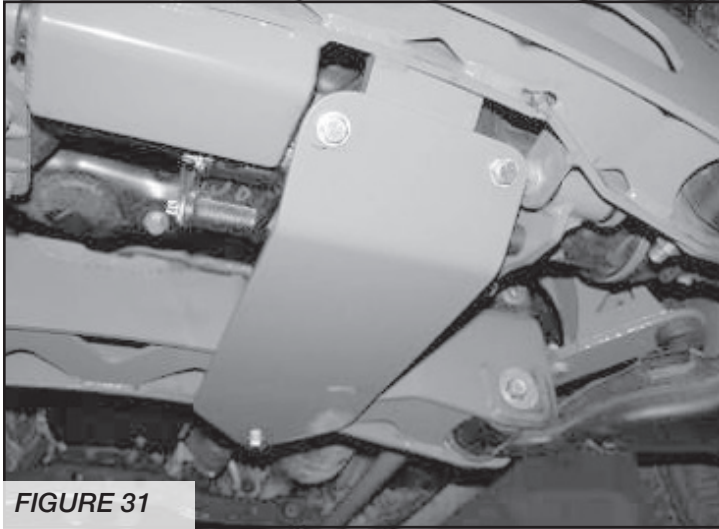

FIGURE 31
24. Locate FT70058BK skid plate. Attach using the supplied hardware (front mount) 5/16" x 1-1/4" bolts, nuts, and washers (rear mount) 1/2"x 1-1/2" bolt, nut, and washer. (BAG 1) Leave loose. **SEE FIGURE 31**